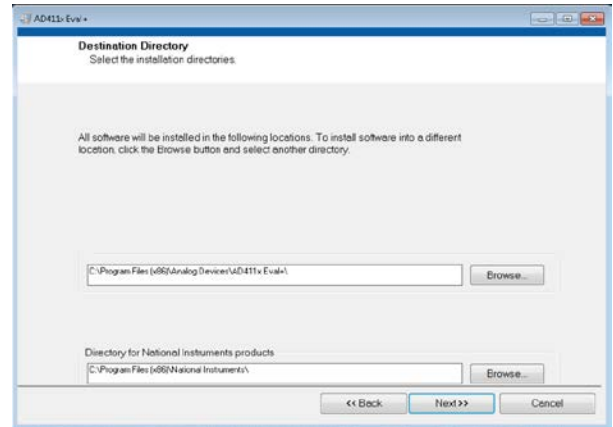

Figure 4. Selecting the Location for Software Installation
4. Select a location to install the software and then click **Next**. Figure 4 shows the default locations displayed when the dialogue box opens, but another location can be selected by clicking **Browse**.